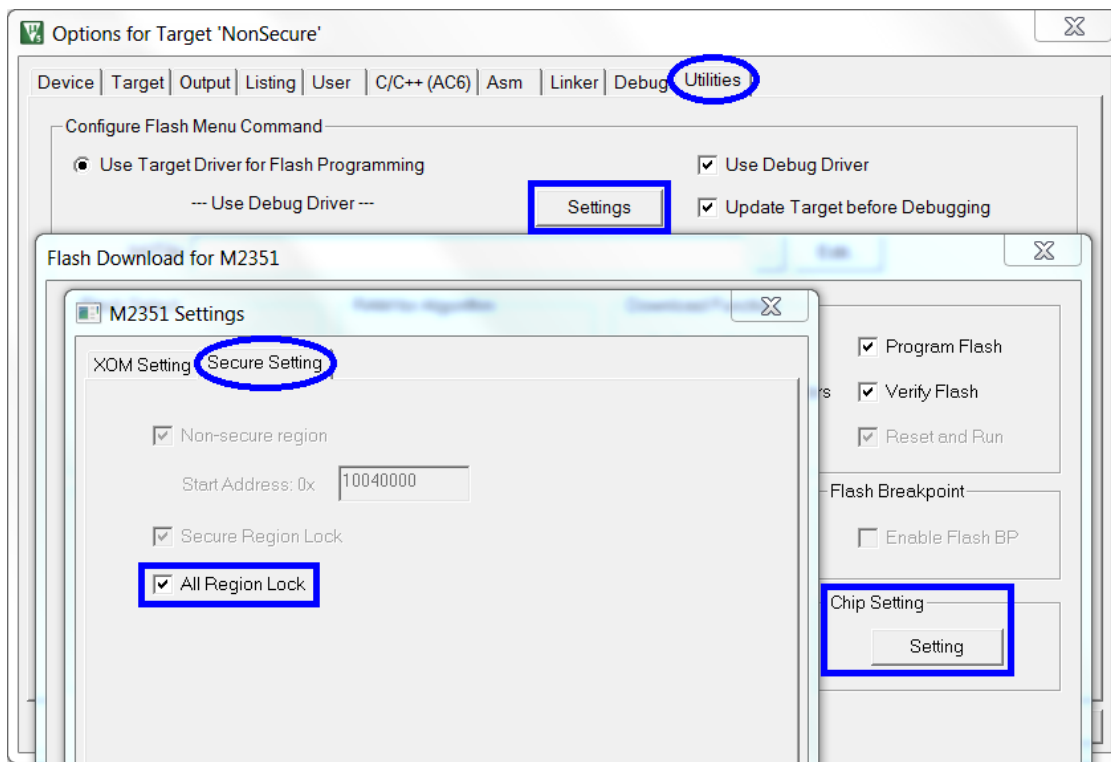

Figure 3-12 Setting Method of ARLOCK in Keil® MDK
1. Click [Options for Target – Utilities], and click [Settings] button to open Flash Download page. Then click [Setting] button under Chip Setting to open the Secure Setting page, as shown in Figure 3-12.